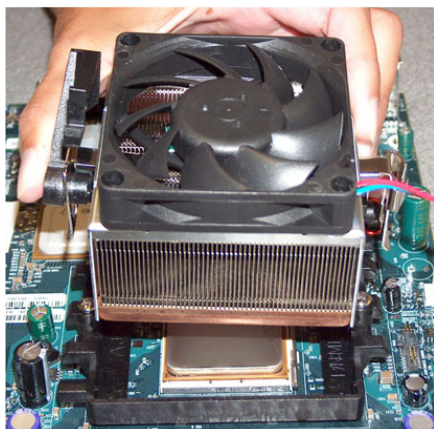

Figure 13. Heatsink Centered Over Processor
15. Center the heatsink over the processor. (See Figure 13 on page 18.)